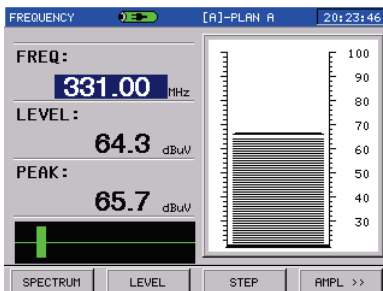

Figure 3-4-5
**FREQUENCY(F3):** Press FREQUENCY soft key to enter frequency measurement interface, as Figure 3-4-5.